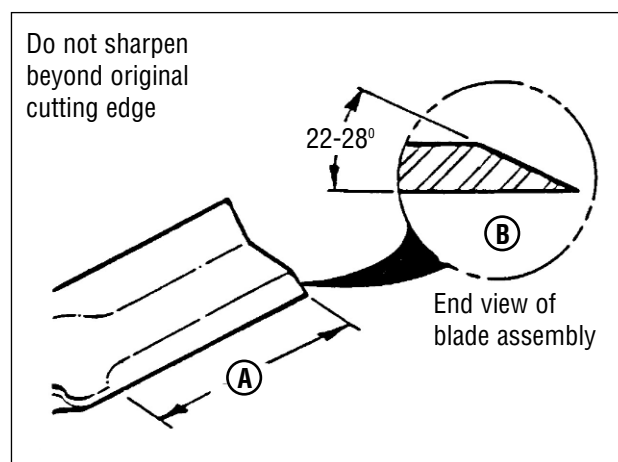

Figure 17: Sharpening the mower blade
- Sharpen the blade on a grinding wheel at an angle of 22 to 28 degrees (**B, Figure 17**). DO NOT sharpen the blade beyond the original cutting edge (**A**).